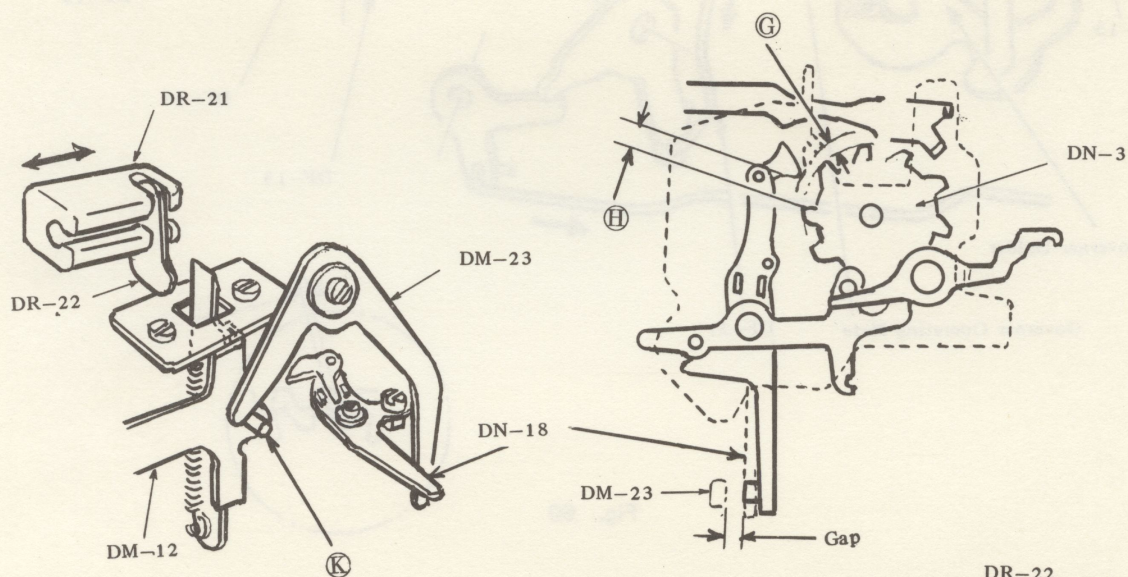

Fig. 57
- (4) Adjust the clearance ㉖ by bending DM-23 (Space Ratchet Releaser) so that the clearance ㉖ between the teeth tip of DN-18 (Space Ratchet) and teeth tip of DN-3 (Space Ratchet Wheel) is 0.3 to 0.5 mm when Pin ㉑ of DM-12 operates DM-23 and disengages DN-18 from DN-3. (Fig. 57)
- (5) Adjust the position ㉗ of DN-18 against DN-3 by the position of DR-21 (Tab Frame) to provide more than third (1/3) pitch of teeth of DN-3 when Carriage is stopped because DR-22 (Tab Pawl) touches the stopper portion of DM-12 with shifting Carriage slowly to the left direction under Tab condition.